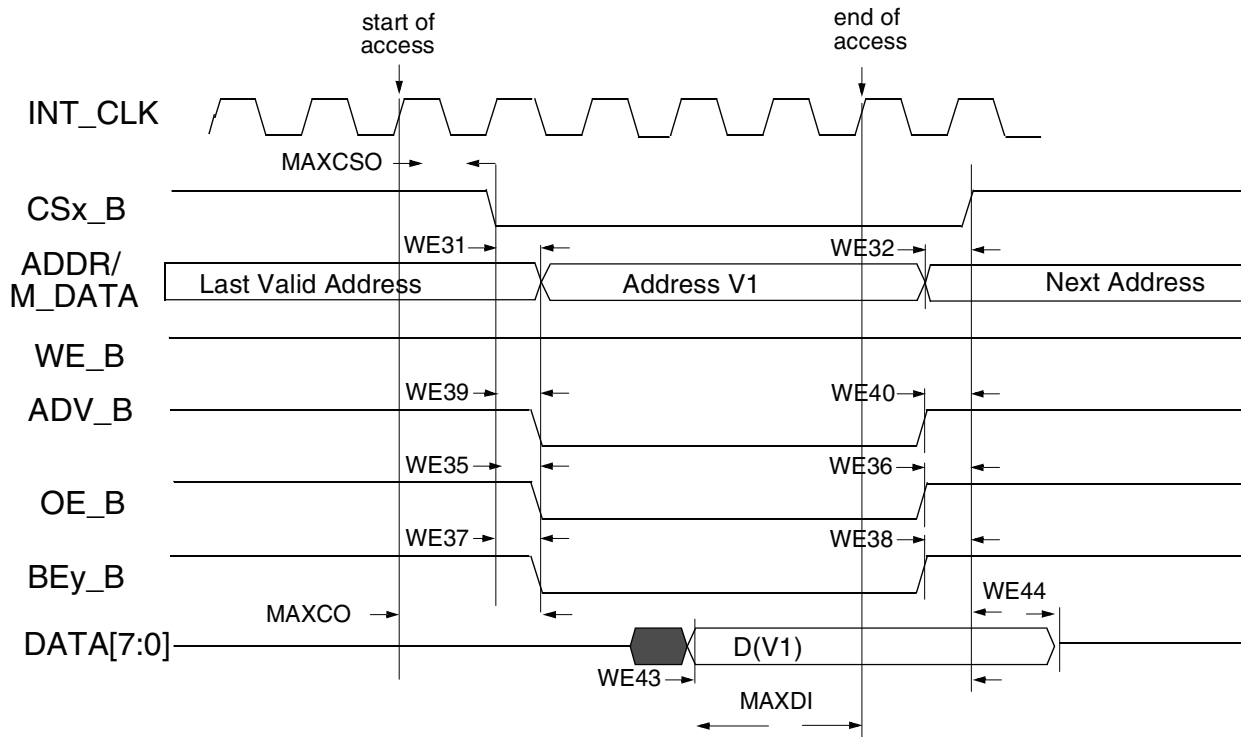
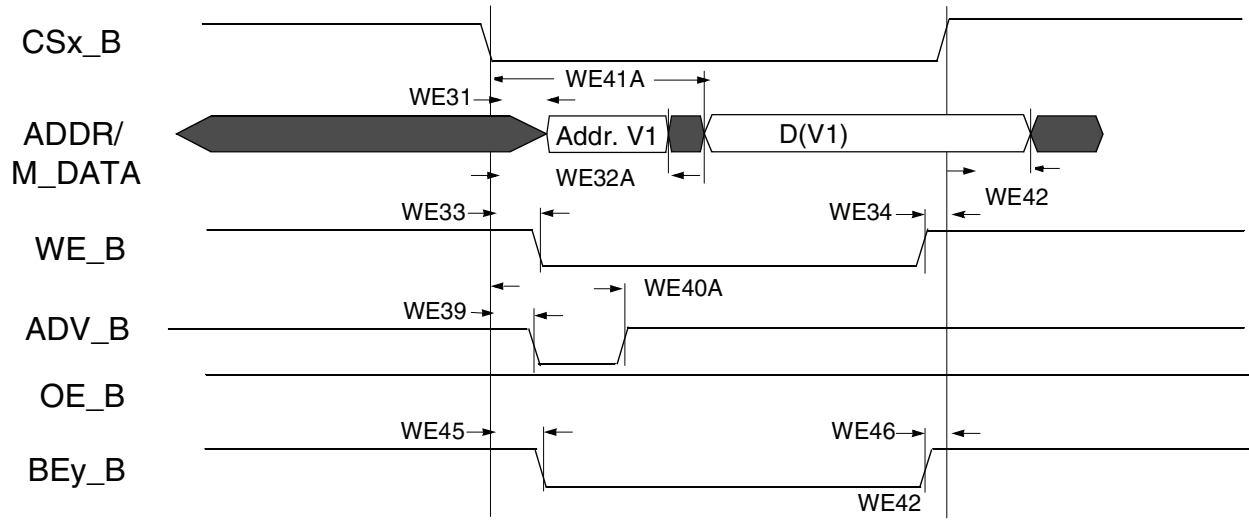
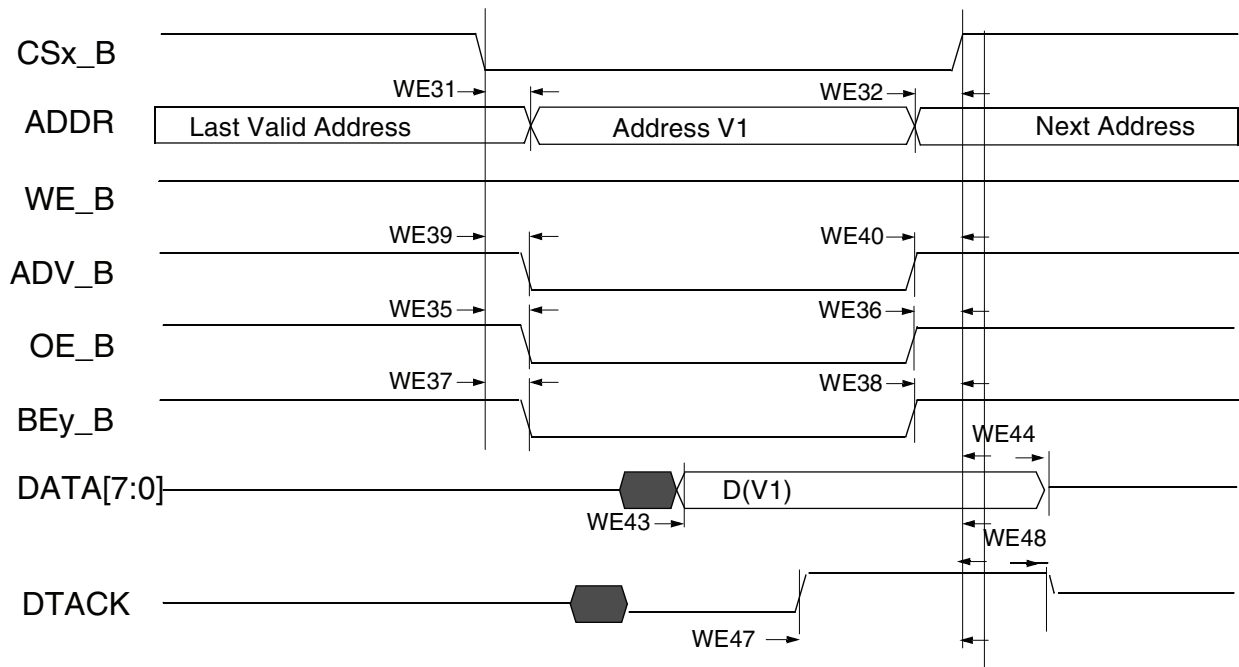

Figure 16. Asynchronous Memory Read Access (RWSC = 5)
Figure 19. Asynchronous A/D Muxed Write Access
Figure 20. DTACK Read Access (DAP=0)
Figure 16 through Figure 20 and Table 39 provide timing parameters relative to the chip select (CS) state for asynchronous and DTACK EIM accesses with corresponding EIM bit fields and the timing parameters mentioned above.
Asynchronous read & write access length in cycles may vary from what is shown in Figure 16 through Figure 19 as RWSC, OEN & CSN is configured differently. See the i.MX 6Dual/6Quad reference manual for the EIM programming model.